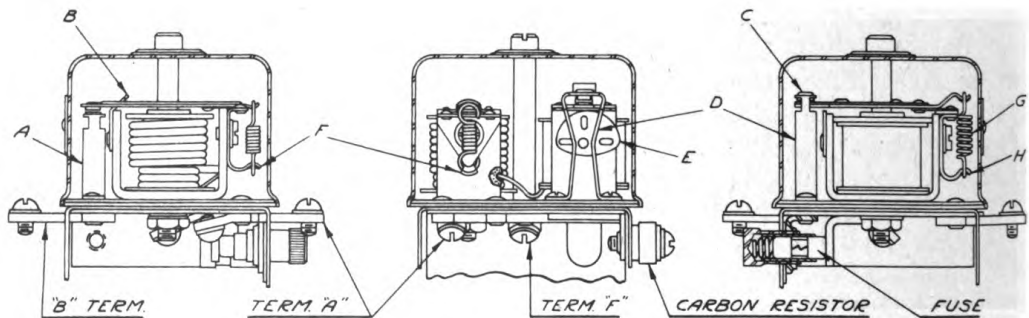

Figure 234. voltage Regulator.
B. Adjust the closing voltage by bending the lower spring hanger (F in Figure 234) on the circuit breaker unit. Bending it down increases the spring tension, and bending it up decreases the spring tension.
Reduce the voltage and check the contact closing voltage as indicated by the lighting of the lamp. This voltage should be 2.4 to 2.8 volts below the reading obtained for the contact opening. Adjust by turning the brass cam (E in Figure 234) on the contact side of the voltage regulator yoke. This changes the contact gap (C in Figure 234) which must not be less than .005" after the adjustments are completed. When the regulator is correctly adjusted, apply a drop of air drying varnish to the cam to prevent slipping. Replace the regulator covers and reassemble the regulator on the generator.
This gap is measured with the contacts closed and is adjusted by raising or lowering the stationary contact "A" in Figure 234. Keep the contacts aligned.
This gap is measured with the regulator contacts closed. It can be adjusted by raising or lowering the upper contact "C" in Figure 234, by expanding or contracting the bridge "D" holding the upper contact.
Adjust by bending the armature stop in Figure 234.
Adjust by turning the brass cam E in Figure 234.